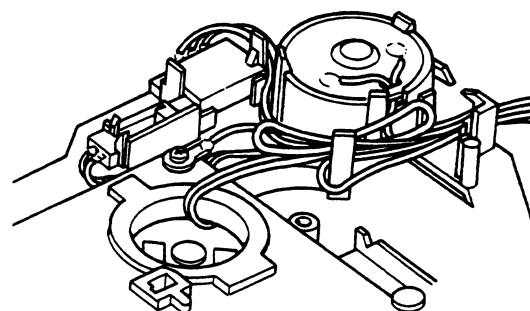

Fig. 10
- (2) When disassembling and assembling the unit mechanism, assemble with wiring resembling that of Fig. 10